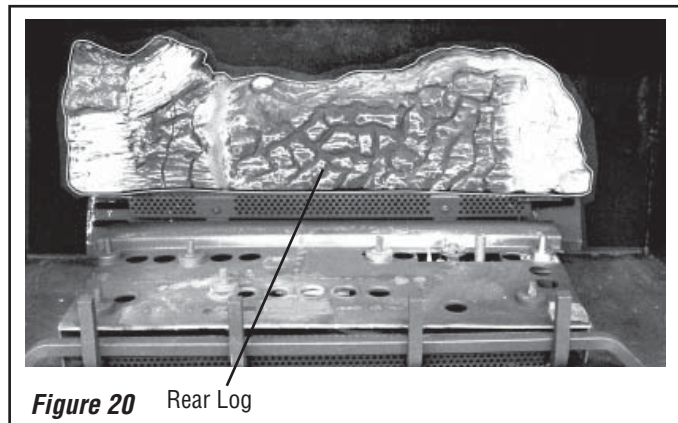

Figure 20 Rear Log
1. Place the largest log onto the 2 corresponding locating pins at the back of the firebox as shown in Figure 20.